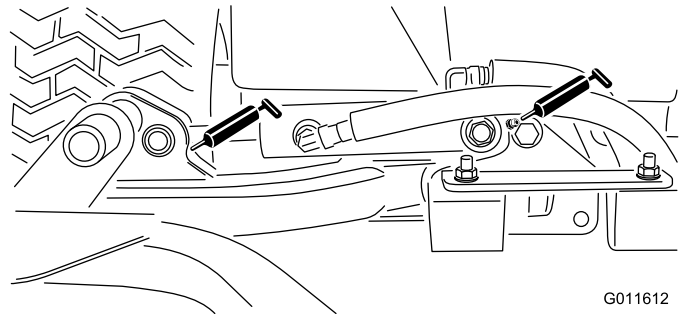

Figure 31
- Cutting unit lift arm cylinders (2 each) (Figure 31)
- Lift arm pivots (1 each) (Figure 31)